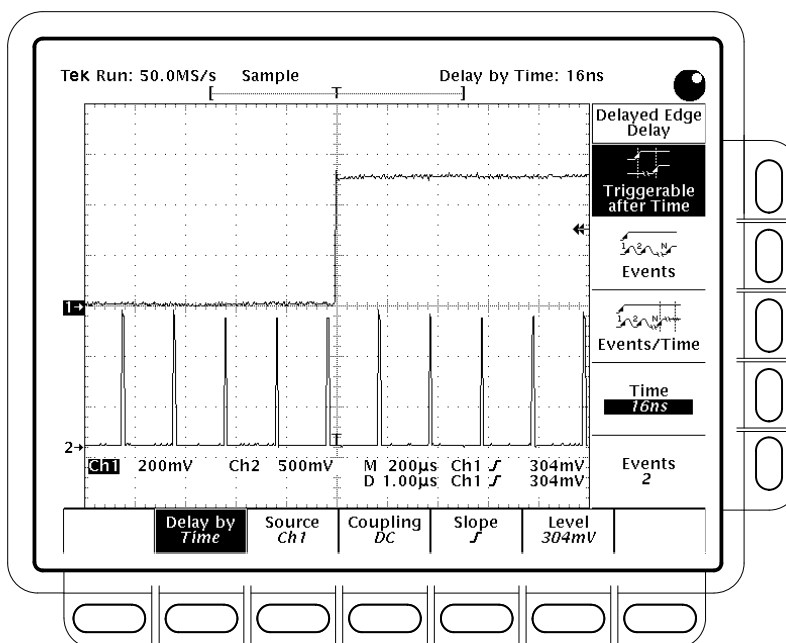

Figure 3–50: Delayed Trigger Menu
6. Press **SHIFT DELAYED TRIG** → **Delay by (main)** → **Triggerable After Time, Events, or Events/Time** (side) (See Figure 3–50.)